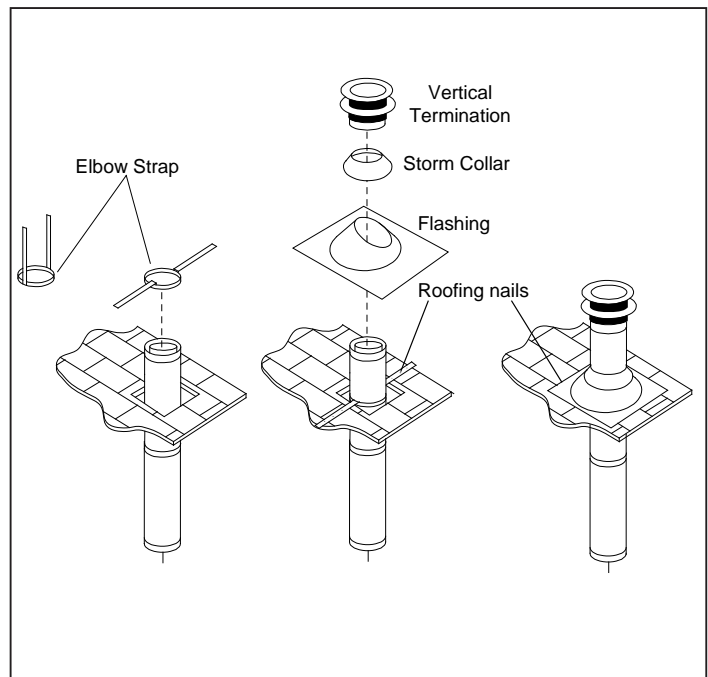

Figure 62: Vertical Vent Termination
- Step 4.** Measure roof pitch. Select the proper flashing and storm collar and determine the height above the roof (see Figure 62). A non-corrosive pipe material must be used for all exterior pipe lengths. Seal nail heads with silicone.